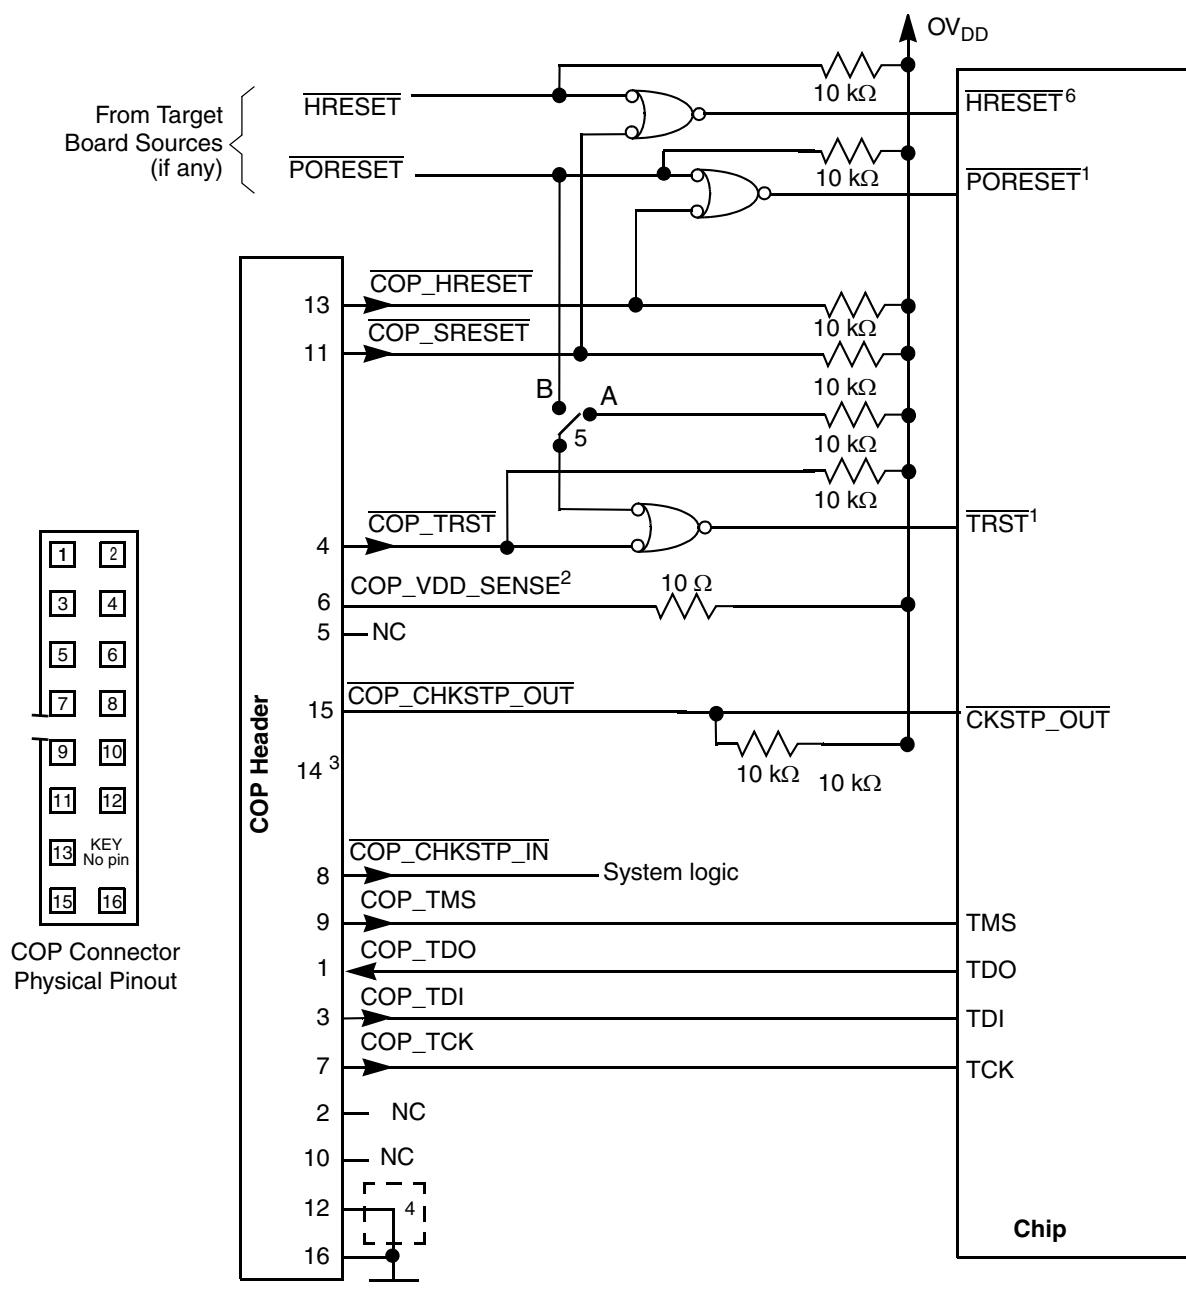

Figure 56. Legacy JTAG interface connection
Correct operation of the JTAG interface requires configuration of a group of system control pins as demonstrated in Figure 56. Care must be taken to ensure that these pins are maintained at a valid negated state under normal operating conditions as most have asynchronous behavior and spurious assertion gives unpredictable results.
The arrangement shown in Figure 56 allows the COP port to independently assert $\overline{\text{PRESET}}$ or $\overline{\text{TRST}}$, while ensuring that the target can drive $\overline{\text{PRESET}}$ as well.
- $\overline{\text{TRST}}$ should be tied to $\overline{\text{PRESET}}$ through a $0\text{ k}\Omega$ isolation resistor so that it is asserted when the system reset signal ($\overline{\text{PRESET}}$) is asserted, ensuring that the JTAG scan chain is initialized during the power-on reset flow. Freescale recommends that the COP header be designed into the system as shown in Figure 56. If this is not possible, the isolation resistor allows future access to $\overline{\text{TRST}}$ in case a JTAG interface may need to be wired onto the system in future debug situations.